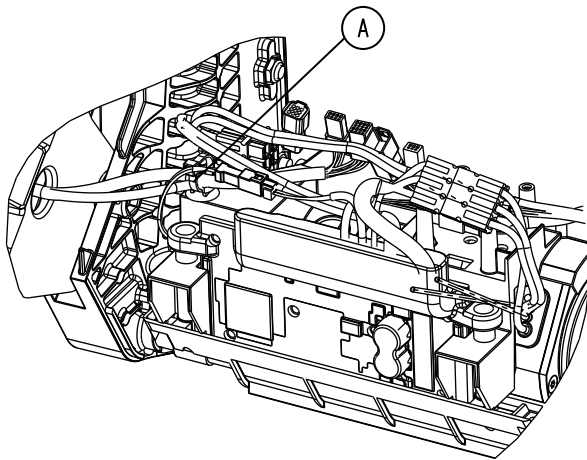

Figure 40 – Remove the cable tie
5. Using wire cutters, cut the cable tie (A) that secures the cables on the patient left backrest upright assembly (Figure 40). Discard the cable tie.